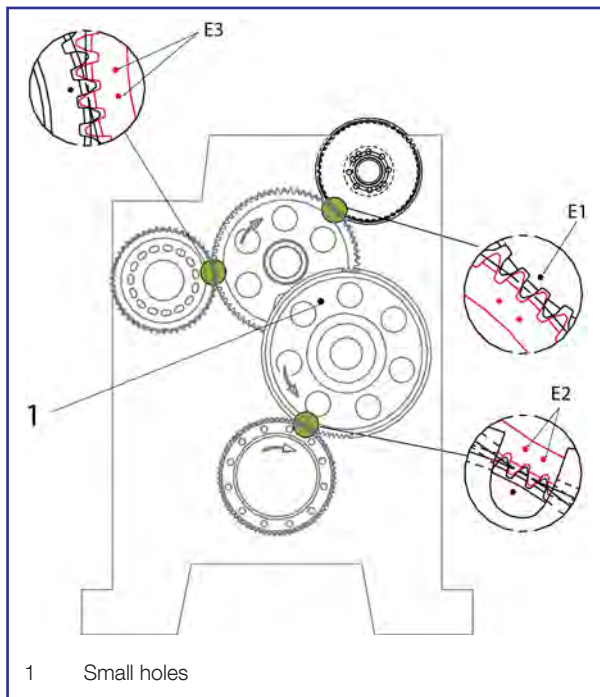
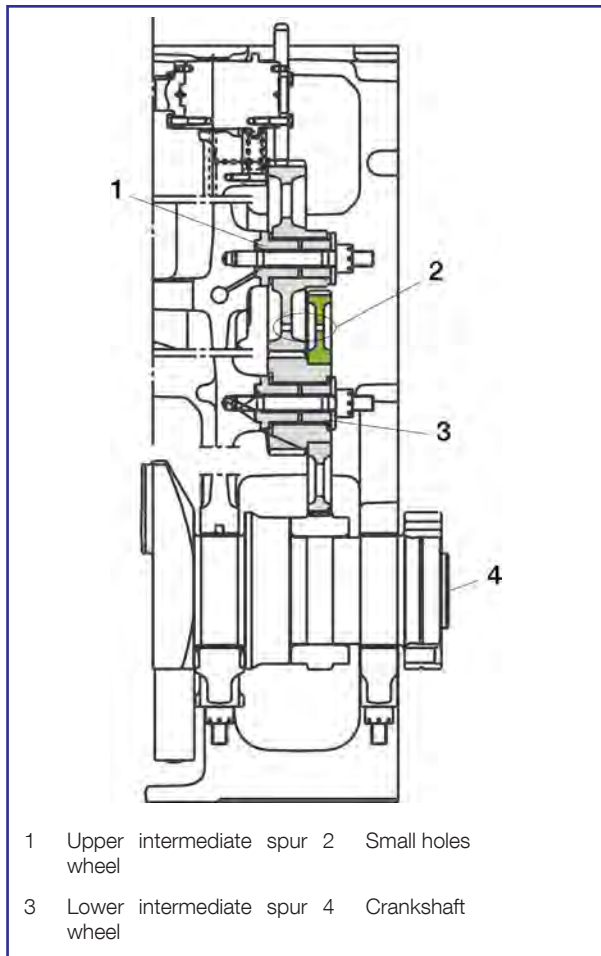

Figure 1: Marks on gearwheels
Figure 2: Position of small holes in the circumference of the two intermediated gearwheels
gearwheel, see fig 1(E2). At the same time turn the upper intermediate gearwheel so that the small holes in the circumference of the two intermediate gearwheels are corresponding, see fig 2.
- 1) Before mounting of the gearwheel, the marks on the crankshaft and the lower intermediate gearwheel must correspond, see fig 1 (E2). Further, the small holes on both intermediate gearwheels must correspond.
- 2) Turn the valve camshaft, until the mark on the gearwheel for valve camshaft corresponds with the 2 marks on upper intermediate gearwheel, see fig 1 (E1).